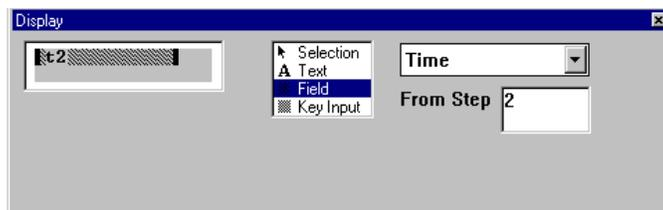

Figure 2-57 Display - Field Object for “Location” Handler’s Time
- If you want the time from the "Location" Handler, choose **Time** from the pop-up menu and enter a **2** in the **From Step** section (Figure 2-57).